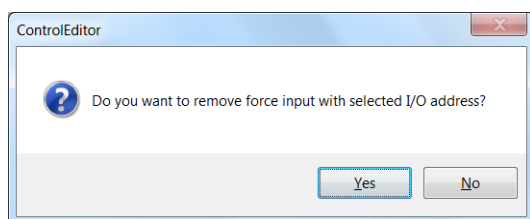

Fig. 6.4.3 Message dialog for removing force input
- Clear:** Message dialog for removing force input of selected I/O address is displayed (Fig. 6.4.3). When clicking [Yes] with the mouse, the setting is removed and the display of the I/O address is cleared from the list.